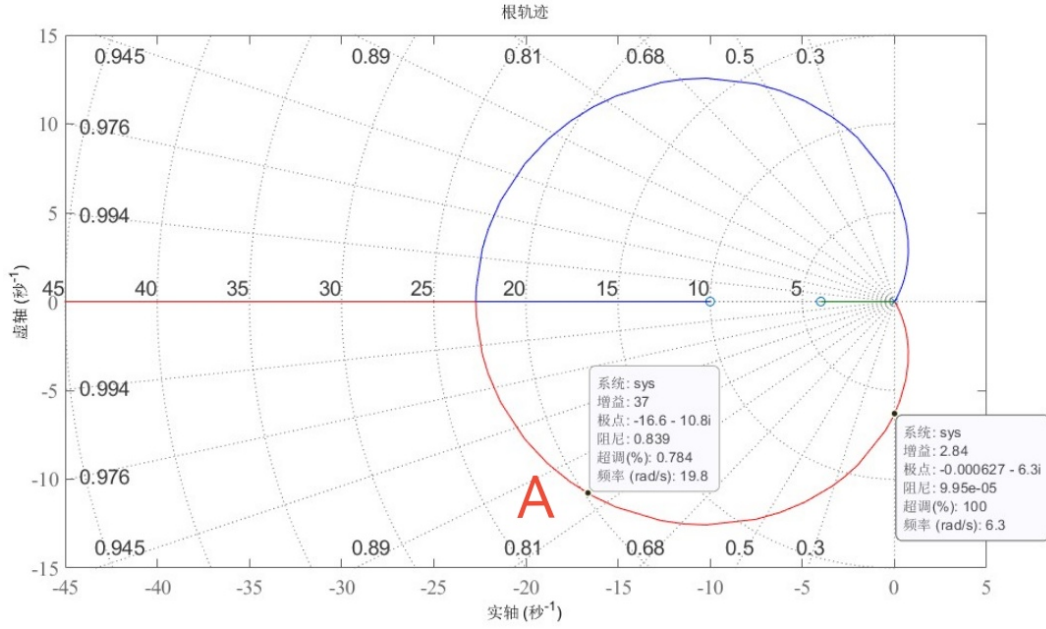

Figure 8: The root locus of the circuit system
4. Consider a circuit system whose transfer function is $G(s)$, the high frequency gain of the system is $k_p = 1$, ($k_p = \lim_{s \rightarrow \infty} sG(s)$). We use a P-controller with proportional gain equals to K to control this system. The root locus of the system is given in in Figure 8. (15')